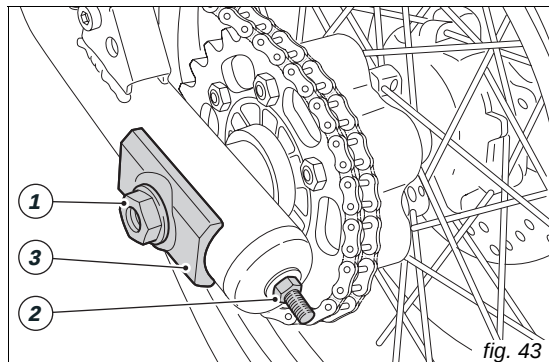

fig. 43
Slacken the nut (1, fig. 43) of the wheel shaft, tighten (turn clockwise) or slacken the nuts (2) on either side of the swingarm equally to increase or reduce chain tension. If you are slackening the chain, you will have to push the wheel forward.
Make sure you have adjusted to the same setting marks on both sides of the swingarm. Refer to pointer on slider (3, fig. 43). This will ensure perfect wheel alignment. Grease the thread of the wheel shaft nut (1) with SHELL Retinax HDX2 grease and torque nut to 72 Nm. Grease the threads of the nuts (2) with SHELL Alvania R3 grease and torque them to 8 Nm.